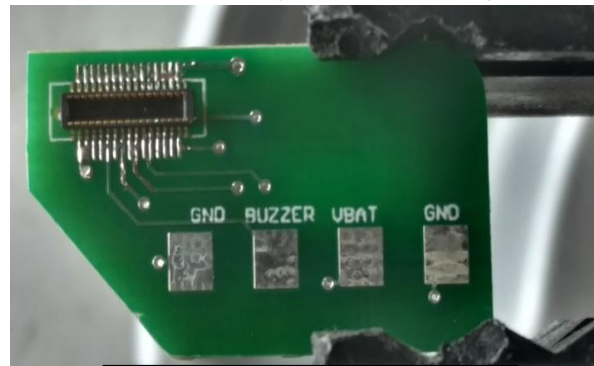

Fig 6, Soldered connector
- a. There is an extra leg on the connector that cannot be soldered down as there are not enough pads for them. There will be four total legs that will not be soldered, one on each corner (Fig 6).